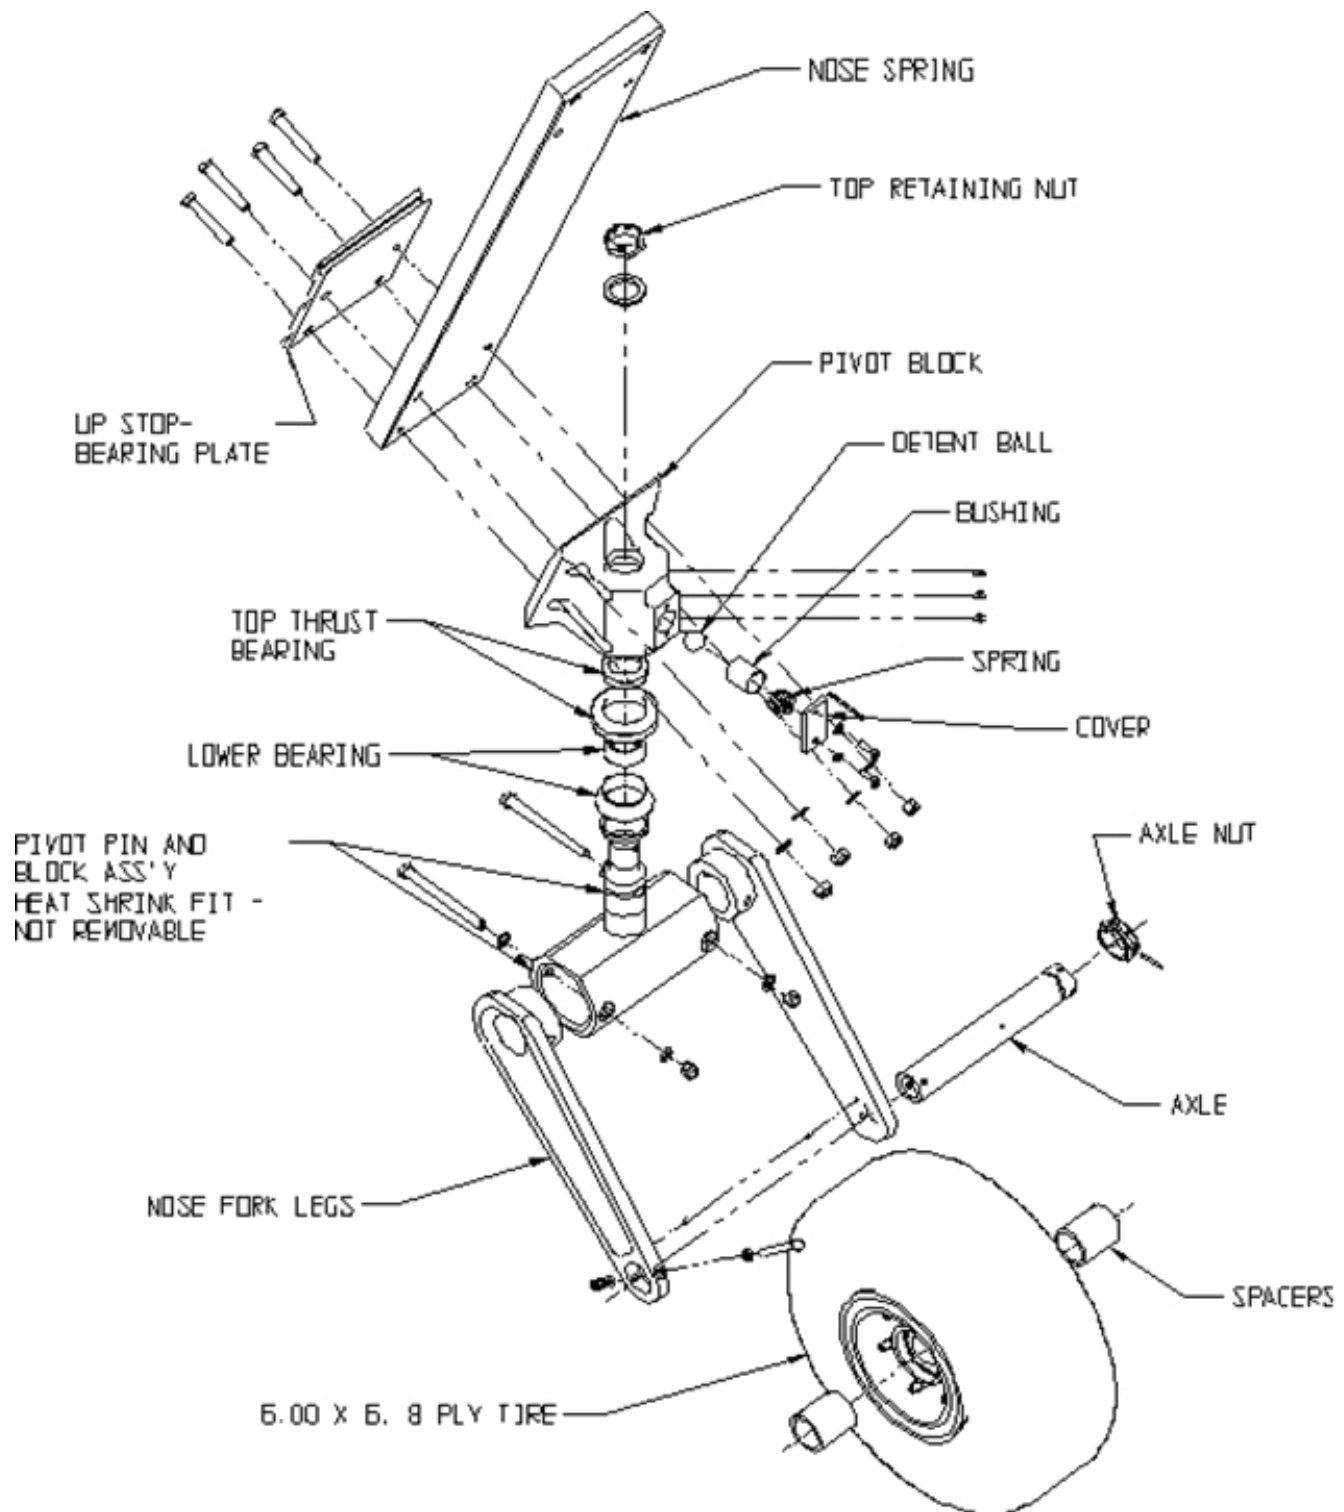

FIGURE 2.10 ASSEMBLY – NOSE GEAR LOWER END
Main wheel tires are standard 8:50 x 10, 8-ply type III aircraft tires, inflated to 50 +/- 5 psi. (Refer to figure 2.10).
On top of pivot block, remove cotter pin from retaining nut. Remove nut. On aft side of pivot block, remove the (2) cap bolts on .25 thick cover. Remove spring. This will loosen retaining ball and lower fork will slide out. Refer to figure 2.10 for assembly.